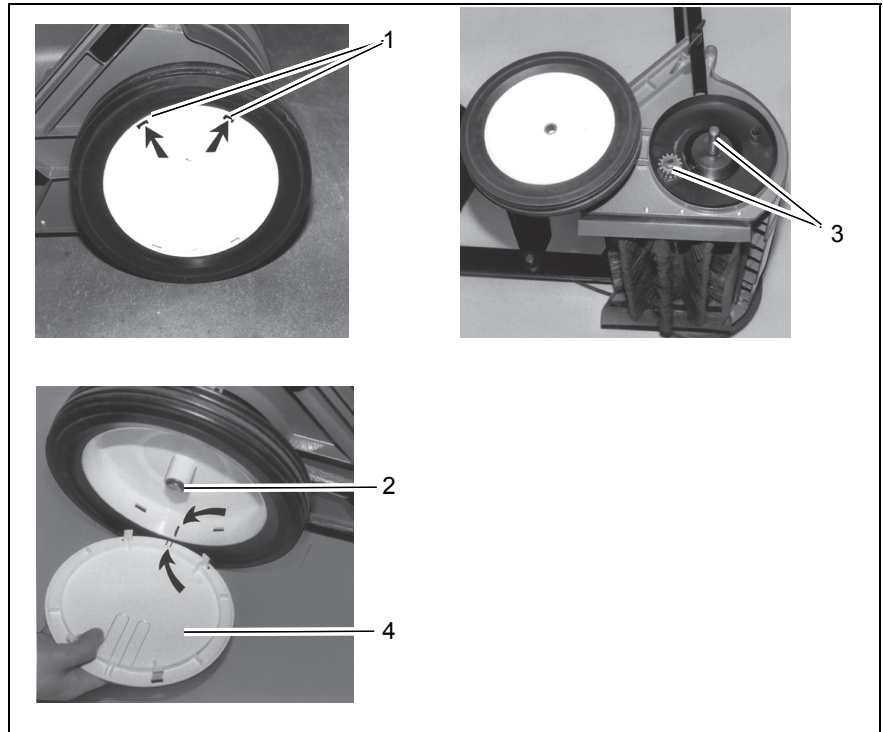

Fig. 8
insert two screwdrivers into the slots marked by arrows, and remove the hub cap using the screwdriver as a lever, applying force in a uniform manner (Fig. 8/1).
2. Remove circlip on wheel axle (Fig. 8/2) and remove the track wheel.
3. Grease axle and pinion (Fig. 8/3).
5. Fit the wheel cap (Fig. 8/4), paying attention to the position of the fixing points.